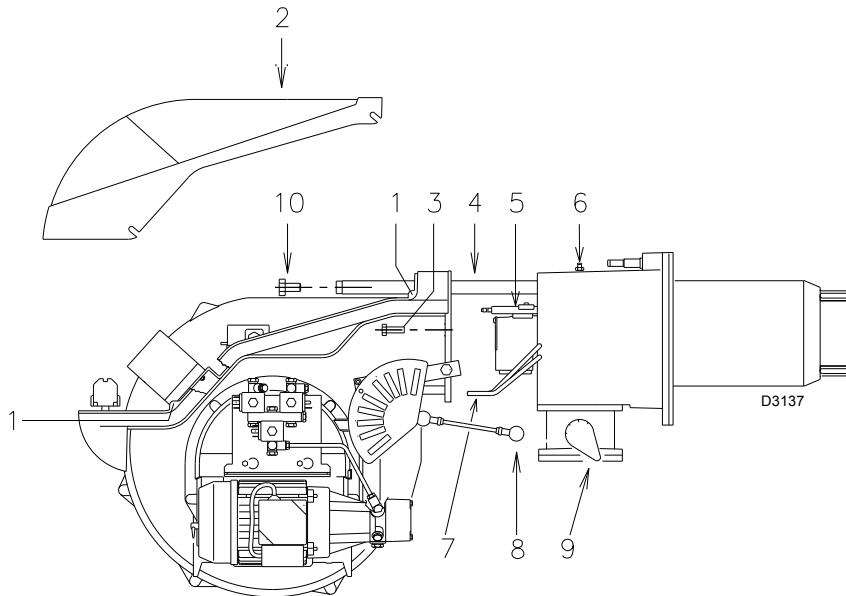

Fig. 48
Open the burner and make sure that all components of the combustion head are in good condition, not deformed by the high temperatures, free of impurities from the surroundings and correctly positioned. If in doubt, extract the internal part 5)(Fig. 48).
- Loosen screws 1)(Fig. 48) and withdraw the cover 2).